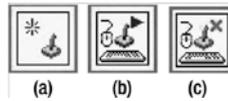

Figure 10-18. (a) The Initialize Joystick Function, (b) the Acquire Input Data Function, and (c) the Close Input Device Function
- **Initialize Joystick:** This function starts the communication between the computer and the joystick that you selected with the device index (see Figure 10-18(a)).
- **Acquire Input Data:** This function gets the data from the joystick device, such as button information and axis information (see Figure 10-18(b)).
- **Close Input Device:** This function closes out the input device session (see Figure 10-18(c)).